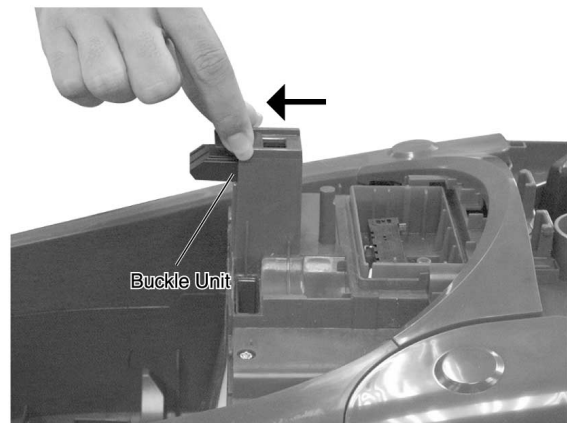

Fig.6
6. Remove the Buckle unit by sliding forward. (Fig.6)